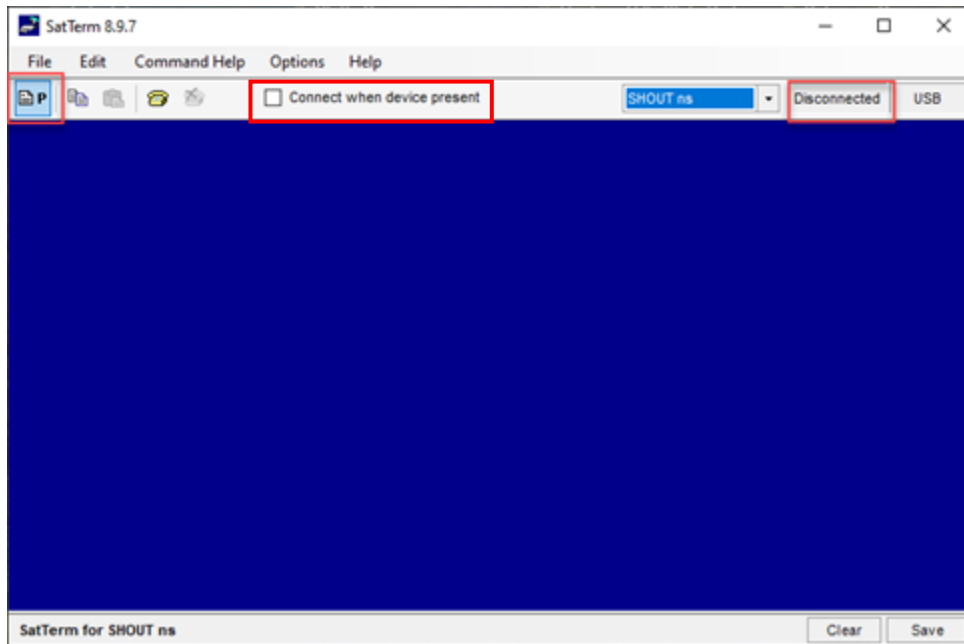

Figure 10: Select Port Properties in SatTerm
3. Select **Port Properties**  at the top left corner of the *SatTerm* window (see **Figure 10**).